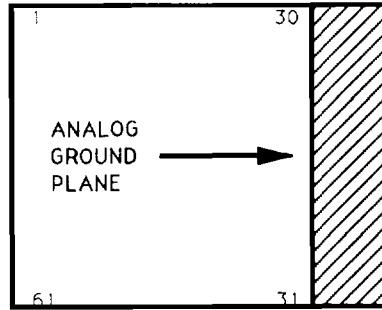

Figure 6-1. RC9696/12 Analog Ground Plane Location
1. The area not covered the analog ground plane (shown in Figure 6-1) contains components which are sensitive to electromagnetic interference (EMI). Do not position this portion of the module near radiating circuitry on an adjacent module.